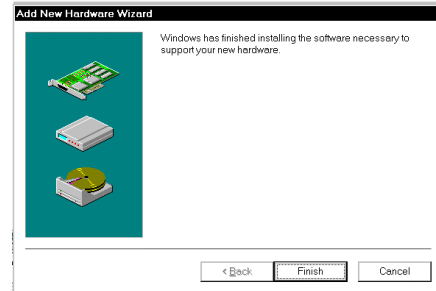

Figure 14, Software Installation Complete
8. Click Next. When prompted click Finish. (Figure 14)